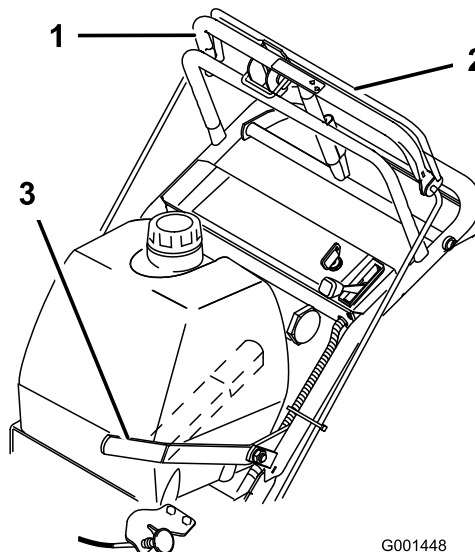

Figure 9
1. To engage the blades, squeeze blade control bail against the upper control bar (Figure 9).
To disengage the blades, pull the blade control lever rearward all the way (Figure 9). The engine will kill